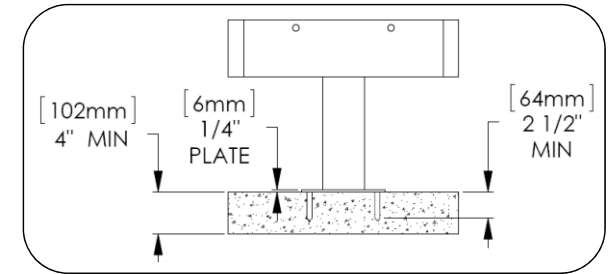

Fig. 1.2
1. Set bench in place and mark hole locations, see Fig 1.2.